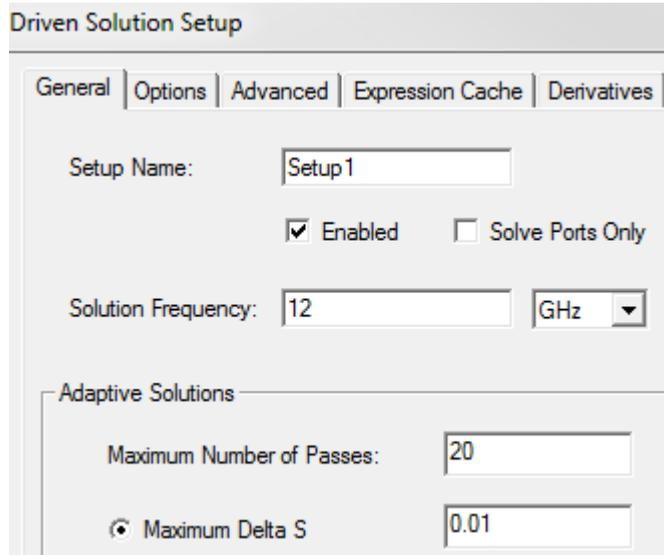

Figure 1. Solution Set-up window.
- 3 Edit the fields as shown in Figure 1.